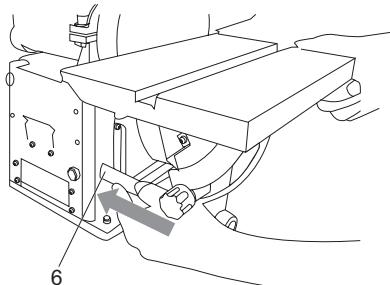

Fig. 11
- > Insert the other end of the worktable rod (6) into the hole on the body as shown in figure 11.